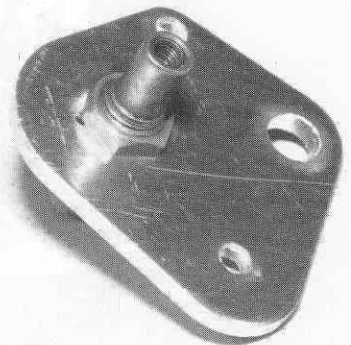

Fig. 31
□ **Fig. 31** The pivot should look like this installed.